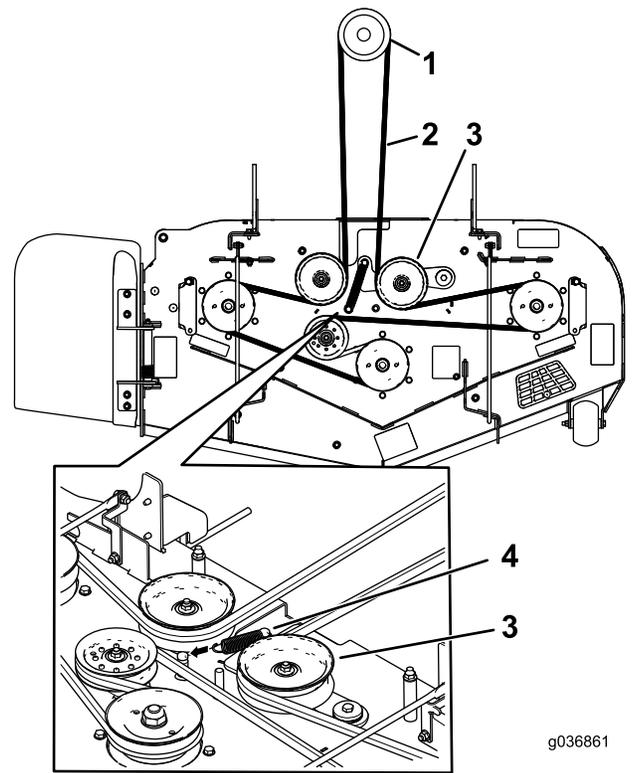

Figure 74
7. Install the new belt around the mower pulleys and the clutch pulley under the engine (Figure 74).
8. Install the idler spring (Figure 74).